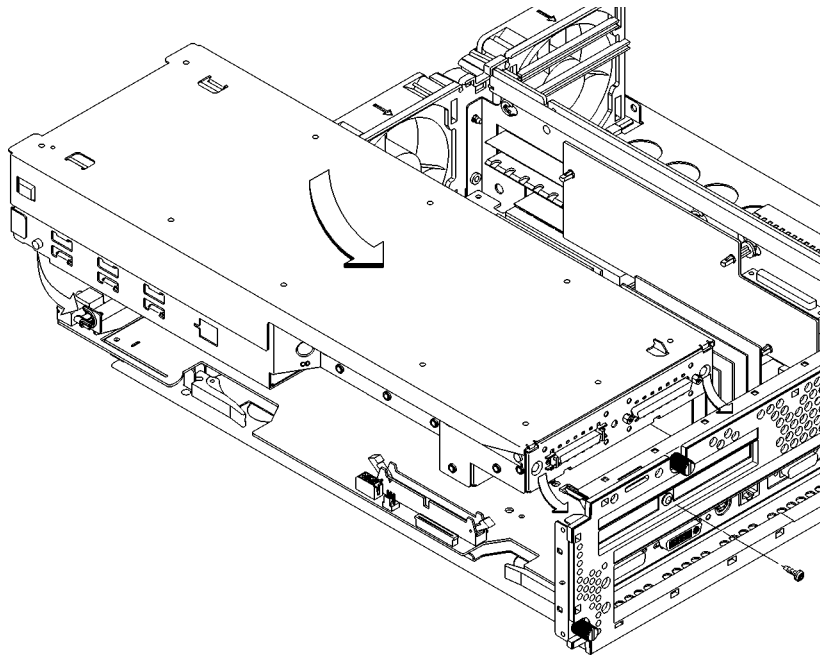

Figure 61
- 8 Align the pins on the back panel of the main tray with the holes on the rear of the storage tray and slide the storage tray onto the pins, as shown in Figure 61.
- 9 Lower the front of the storage tray and move it slightly forward or backward to align the pins on its sides with the slots on the main tray, as shown in Figure 61.
- 10 Slide the storage tray towards the rear of the main tray until the pins are fully seated in the main tray slots, as shown in Figure 61.
- 11 Replace and tighten the storage tray retaining screw, as shown in Figure 61.